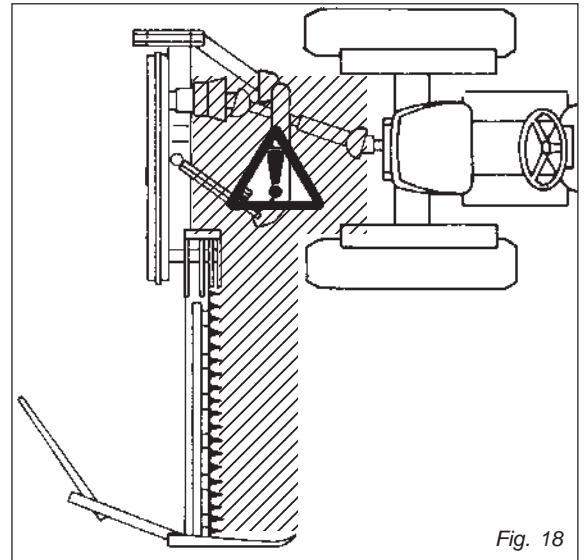

Fig. 18
5) **It is absolutely forbidden to stand between the tractor and linkage for acting the lifting controls from the outside (Fig. 18).**
- 6) It is absolutely forbidden to stand in the space between the tractor and the equipment (Fig. 18) with the engine running.